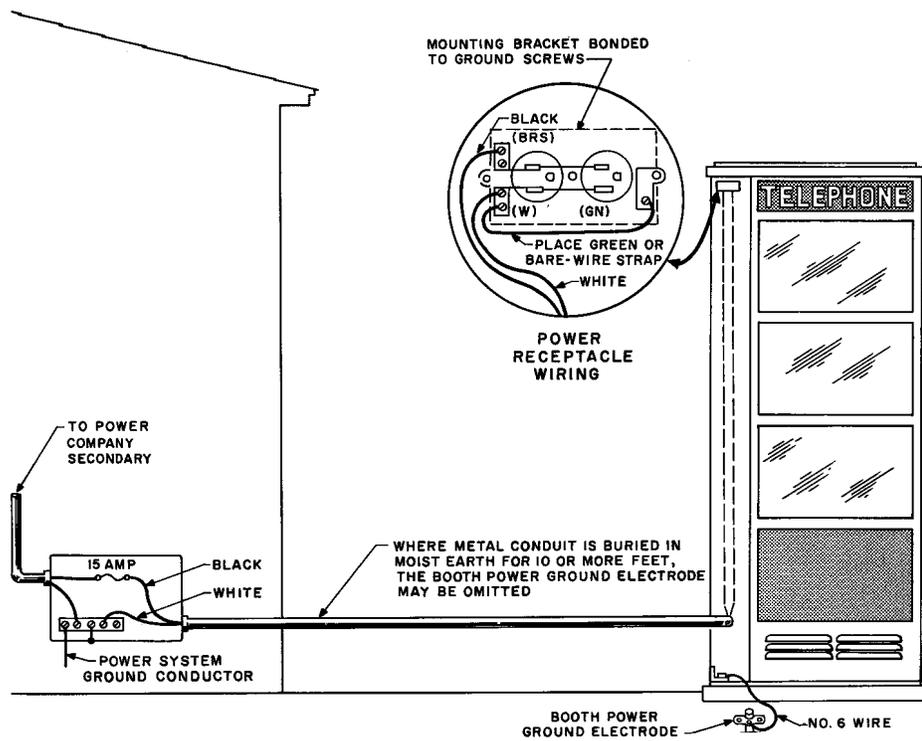

Fig. 5 - 2-wire Extension of Branch Circuit
9.05 Fig. 5 shows a branch circuit extended from a building without a third wire for power-grounding at the booth. When continuous metallic conduit is used, the conduit serves as ground conductor.